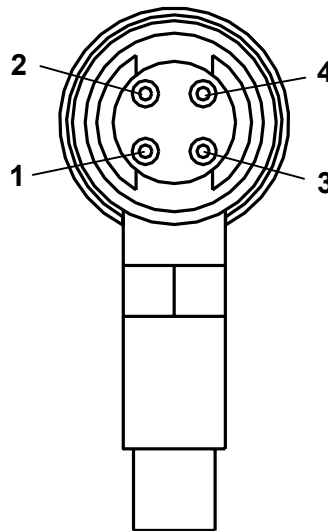

Figure H-8. Back view of the PG105 tube, with the plastic connector removed.
1. Disconnect the Detachable Plastic Connector from the PG105 gauge head. Four feedthru connector pins are now easily accessible from the back of the gauge tube as schematically represented in Fig. H-8.
2. Following the pin assignments of Fig. H-8, measure the resistance between pins 1 and 4 and between pins 2 and 3. The nominal wire resistances are: